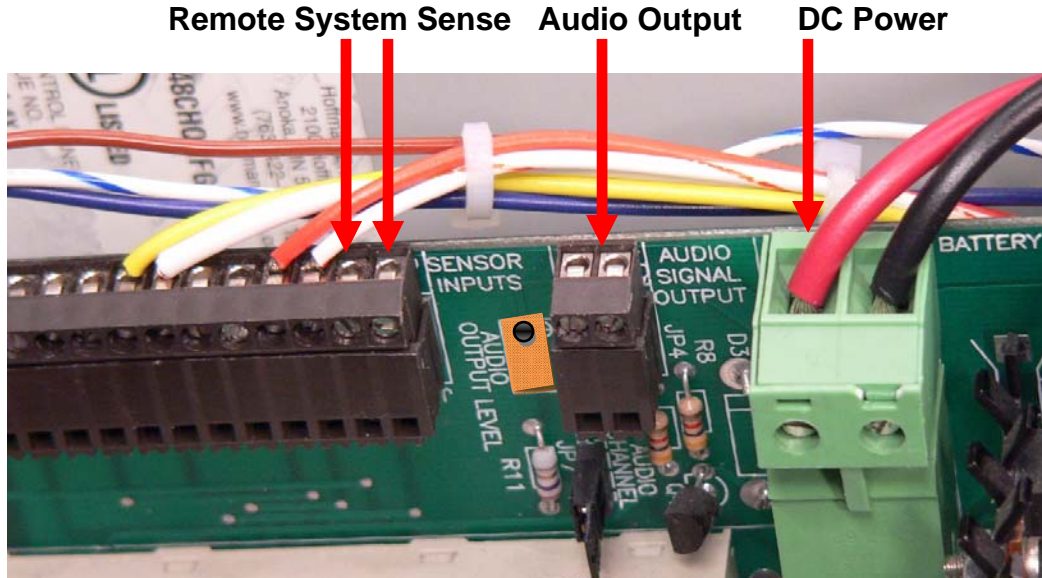

Figure 8.4 – UVRI Remote System Sense, Audio Output and DC Power Connections
1. Refer to *Figure 8.4*. Measure the DC voltage across the DC input connector on the control board. The voltage must be at least 11.5 VDC to turn on the control board. The voltage should be 13.7VDC when AC power is applied to the UVR1.